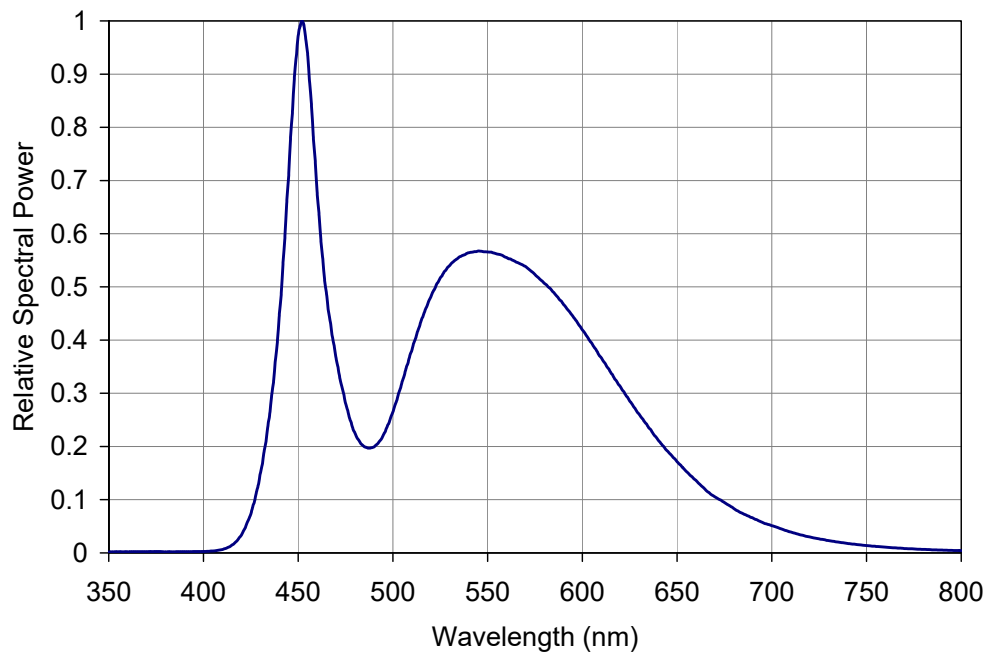

Figure 5: Relative spectral power vs. wavelength @ $T_C = 25^{\circ}\text{C}$.
- Solder conditions per JEDEC 020D. See Reflow Soldering Profile Figure 5.